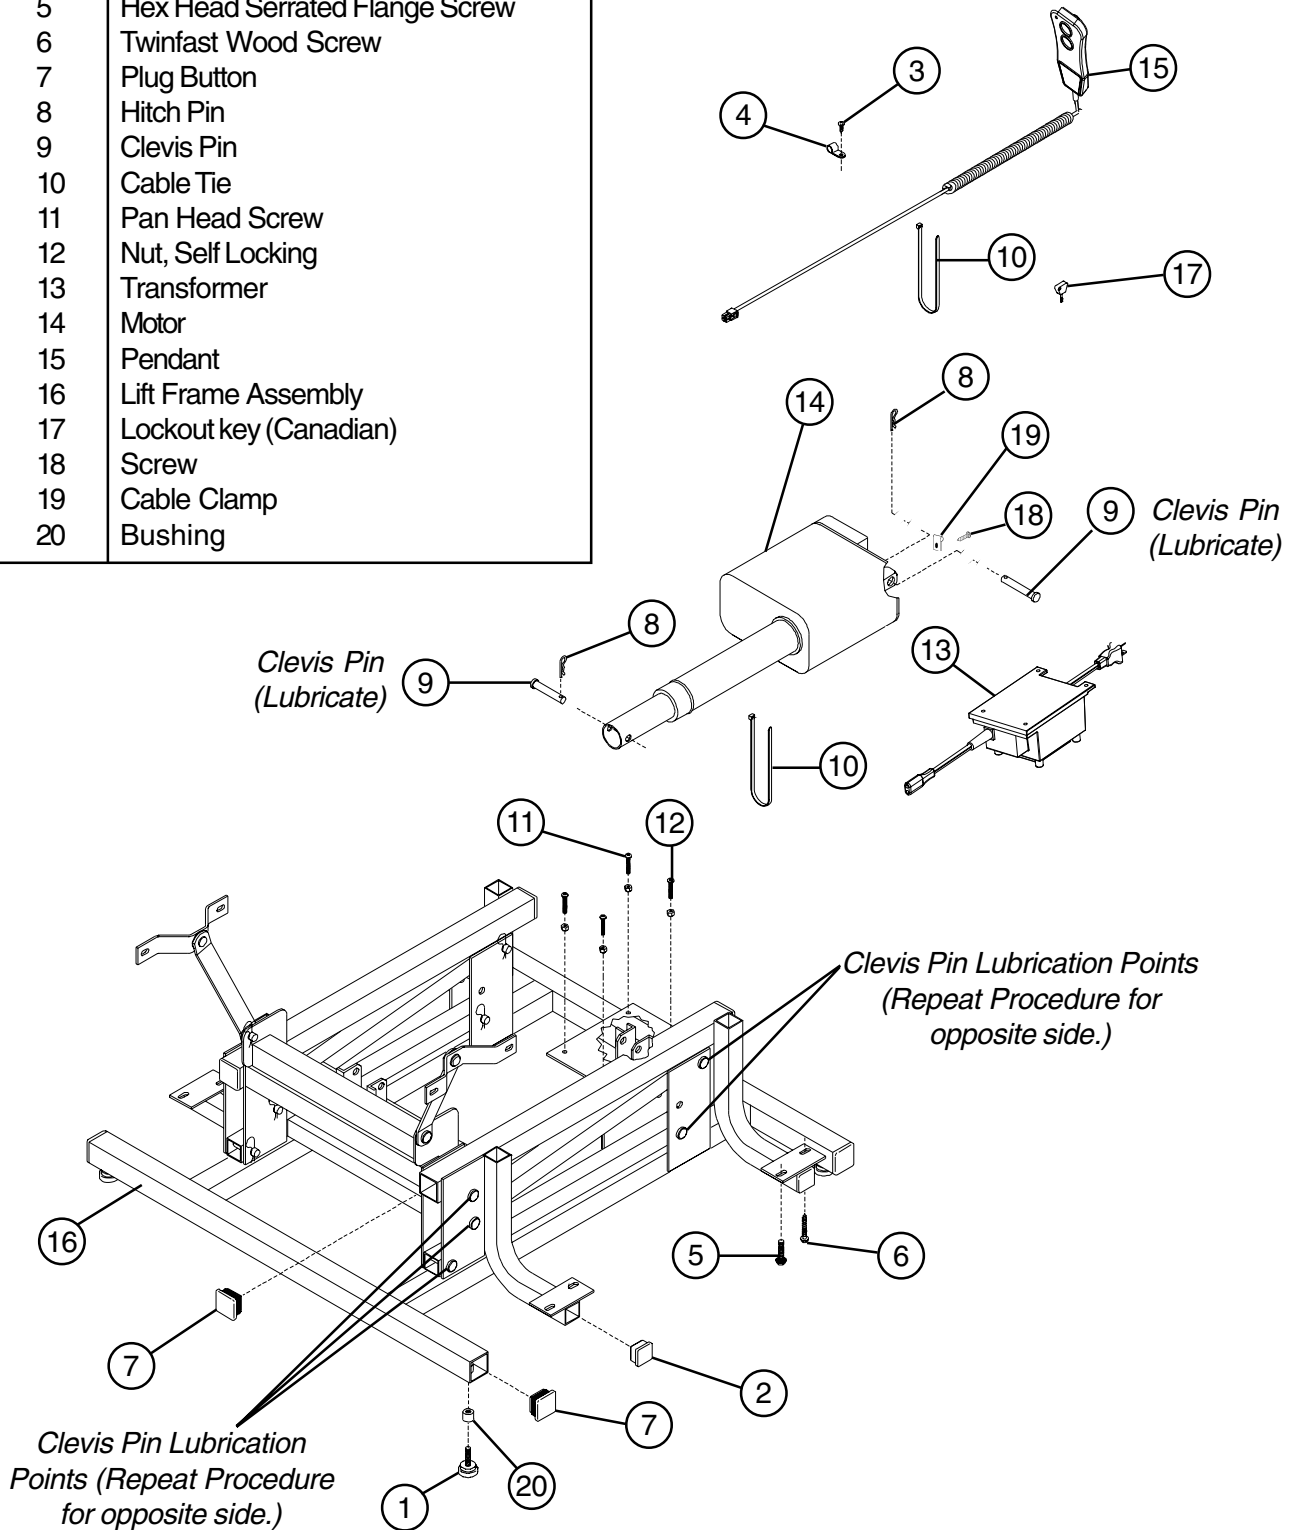

FIGURE 3 - LUBRICATION POINTS
### Lubrication Points (FIGURE 3)
5. Perform the following to one (1) clevis pin one at a time (**12 in all**) as in **FIGURE 3 - LUBRICATION POINTS** in this **INSTRUCTION SHEET**: